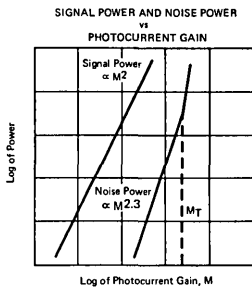

FIGURE 1
3. Gain M_T is measured at the reverse voltage at which the noise deviates from the theoretical linear characteristic. See Figure 1. Radiant flux is as required to give a photocurrent of 0.1 nA rms at V_R = 40 V.